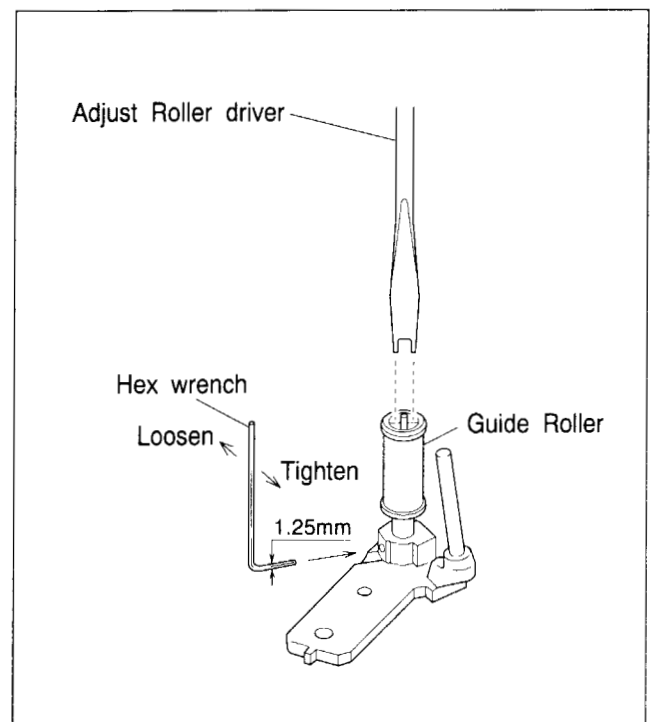
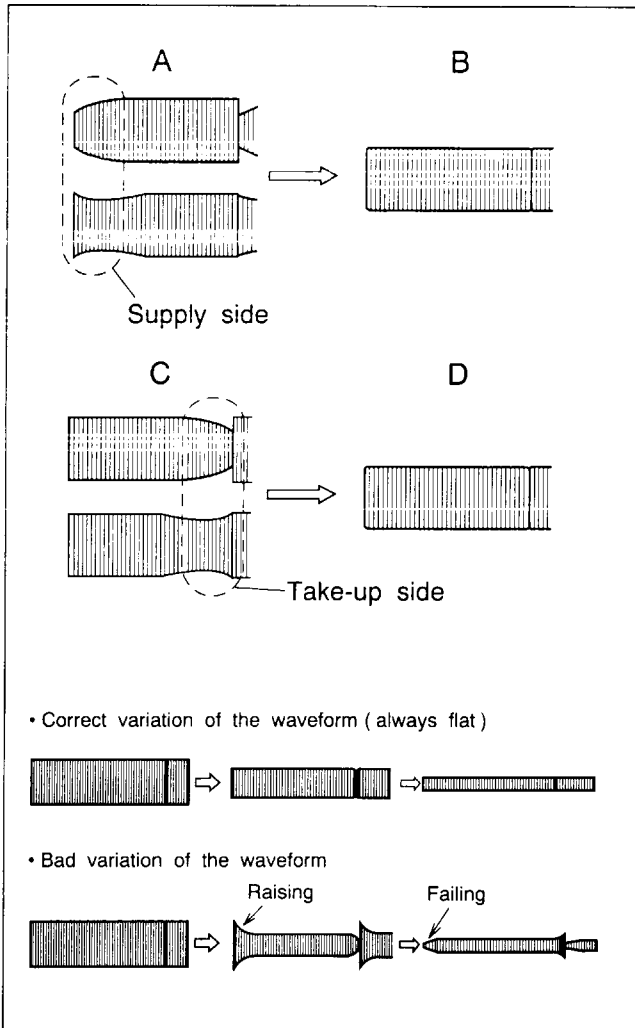
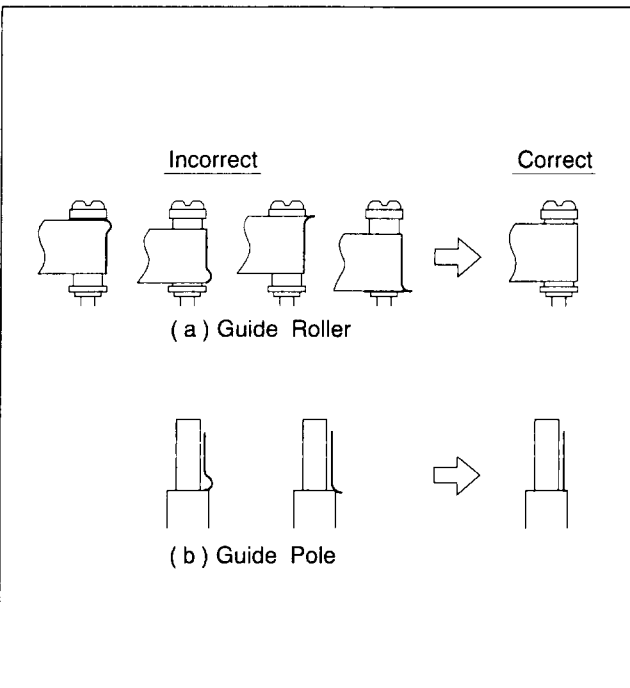

Fig. 2-7-2
Fig. 2-7-3
Fig. 2-7-4
- (6) When the FM waveform does not remain flat during this process,first slightly loosen the set screw located at the bottom of the guide rollers.Using the guide roller adjustment tool (Roller driver), adjust the supply and take-up guide rollers (refer to Fig.2-7-2) to obtain the correct waveform as indicated in Fig.2-7-3.
- (7) By pressing the CH buttons several times, vary the FM waveform output from maximum to minimum (and vice versa) gradually,and confirm that the variation proceeds in flat shape, as shown in Fig.2-7-3.
- (8) After adjustments,tighten the set screw of the guide rollers.
- (9) Confirm that the tape wrinkling does not occur at the roller upper or lower limits as indicated in Fig.2-7-4.